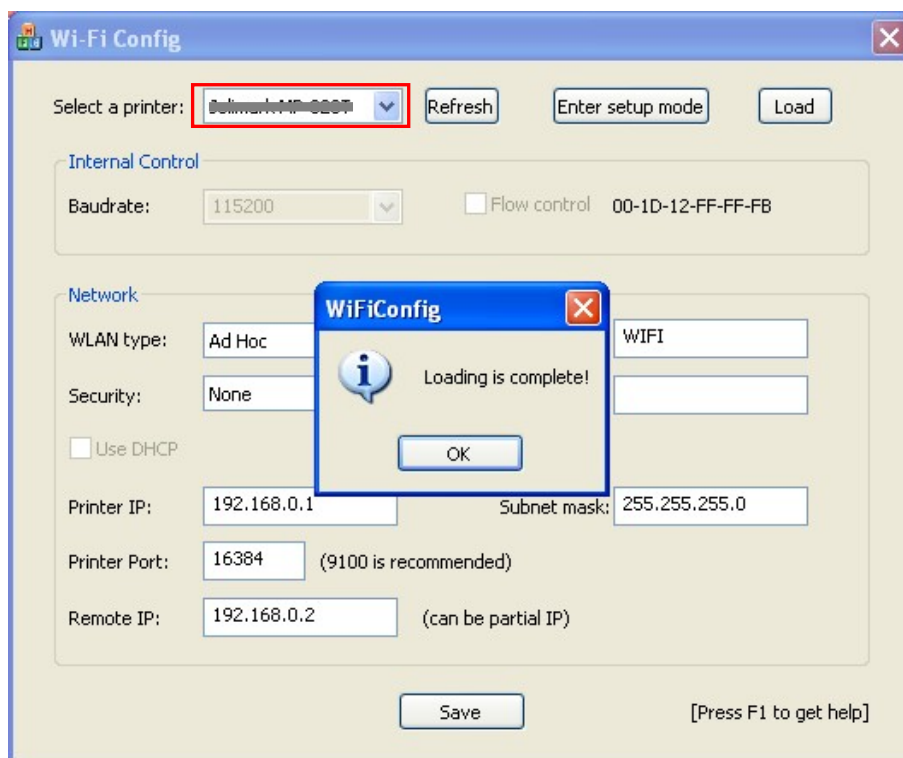

Figure 3
3. Click "Load", the computer will load the information of the printer and display it on the WiFiConfig software. Click "OK" in the dialogue box "Loading is complete" that pops up. (As figure 3 shown)